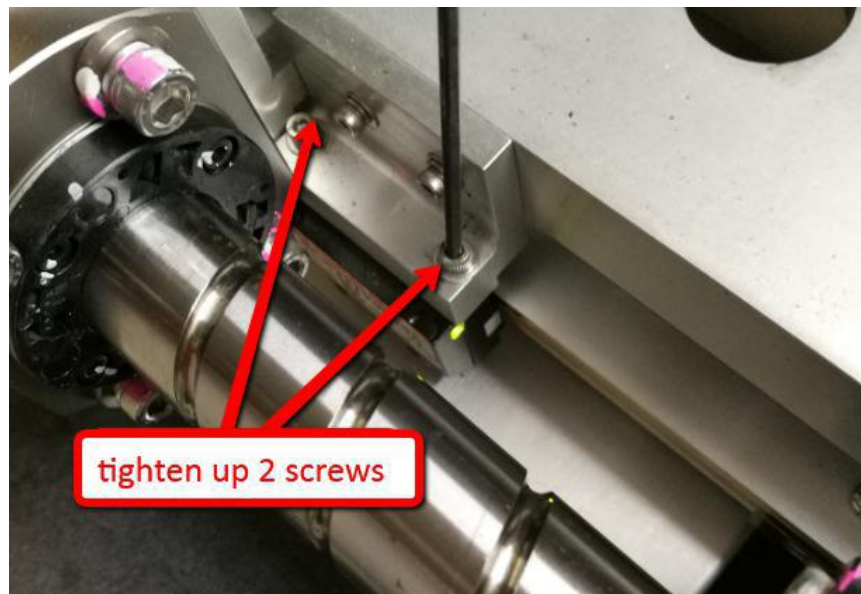

Figure 8 X-Axis encoder replacement
4. Assemble X-axis encoder & tighten 2 screws as shown in Figure 8..